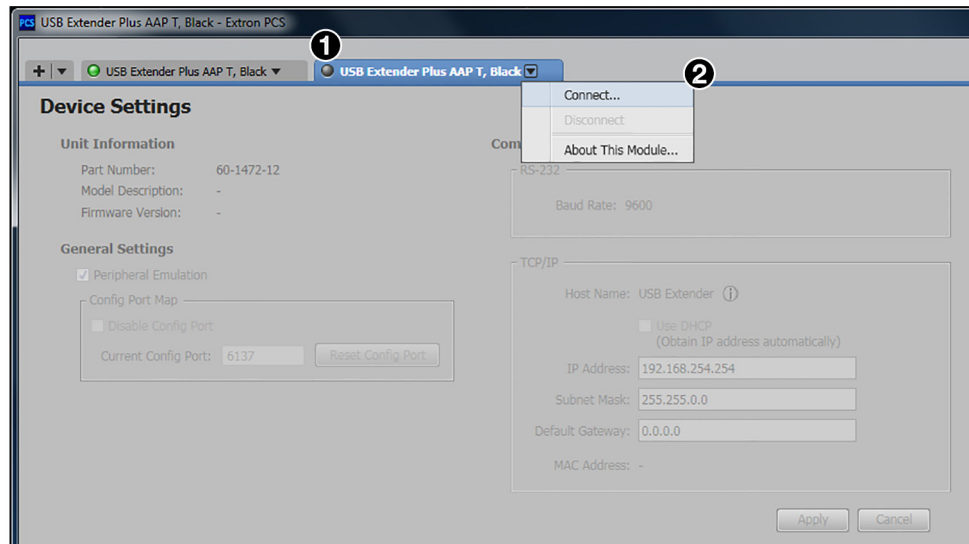

Figure 27. Selecting Connect from the Device Tab Menu
5. Use the PCS configuration software or SIS commands to set the IP address, gateway address, and subnet mask as needed (see figure 27 on page 32).
The dialog box closes and the **Device Settings** screen appears, with name of the selected device on a new tab at the top of the screen (see figure 27, ①).